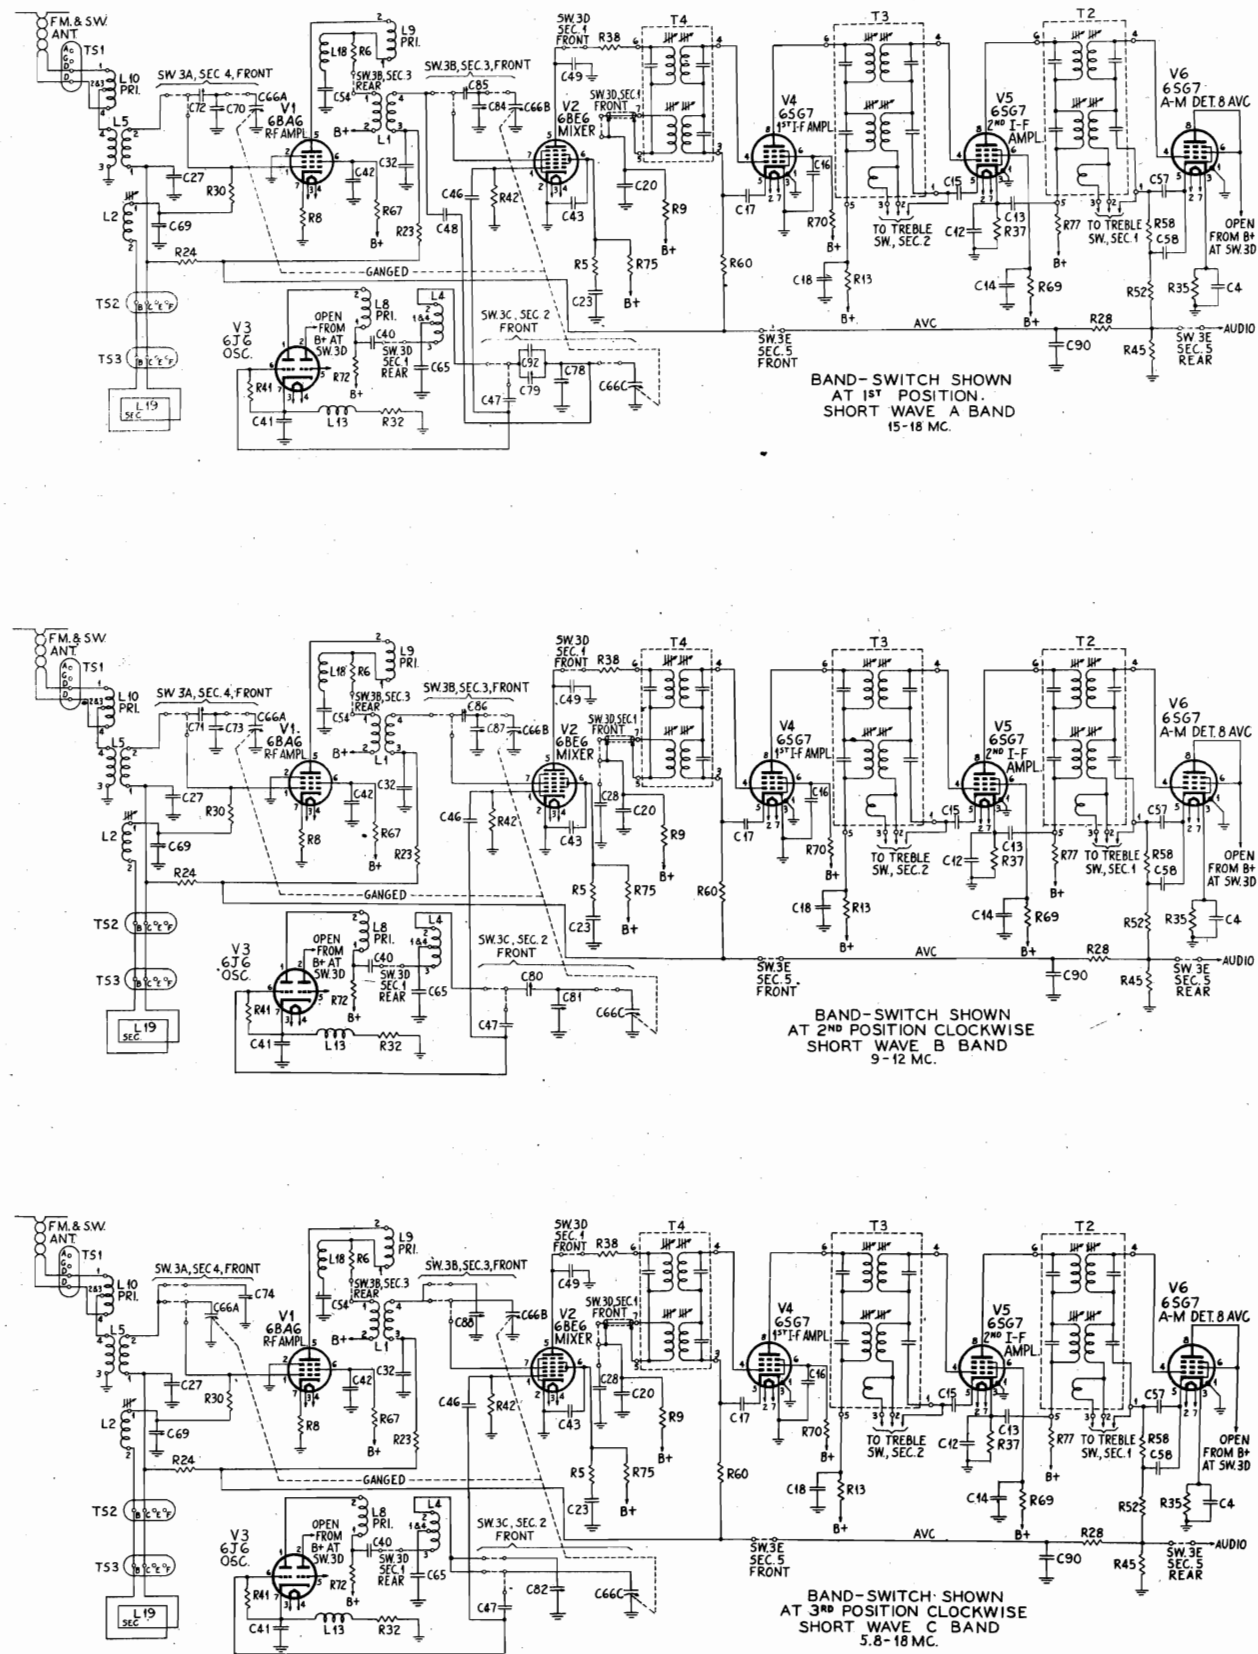

**Fig. 1. View showing pushbutton setup.**
3. Insert screw driver blade through large hole of pushbutton into slot of locking screw. (See Fig. 1).